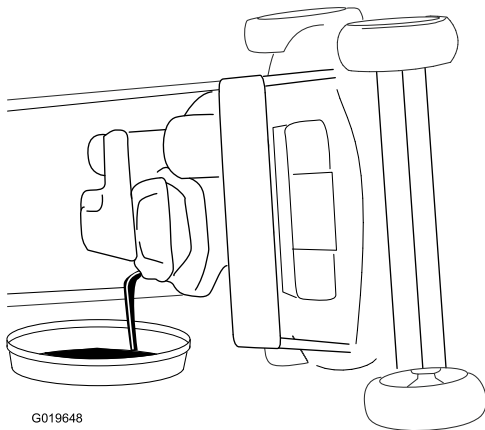

Figure 24
- Tip the machine onto its side (so that the air filter is up) to drain the used oil from the oil-fill tube (Figure 24).